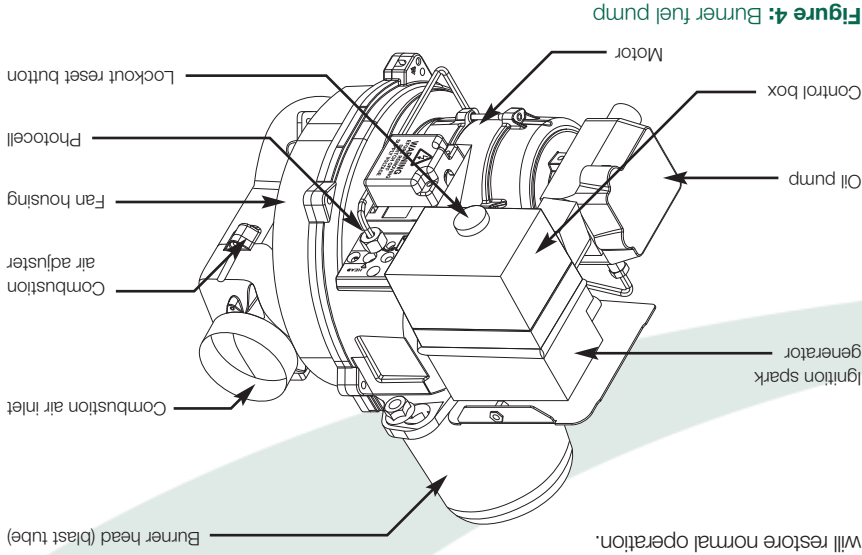

Figure 4: Burner fuel pump
Figure 4 shows the position of the lockout reset button on the burner, along with the other main burner components. Make the following checks:
4. Check if the burner 'Lock-out' button has tripped. If it has, locate the lockout reset button on the burner. See Figure 4.